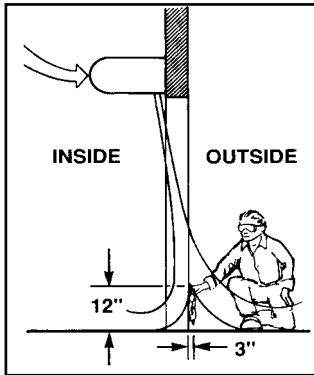

Figure 9
**See Figure 9.** The split location is indicated where the handkerchief is vertical with minimal or no fluttering.